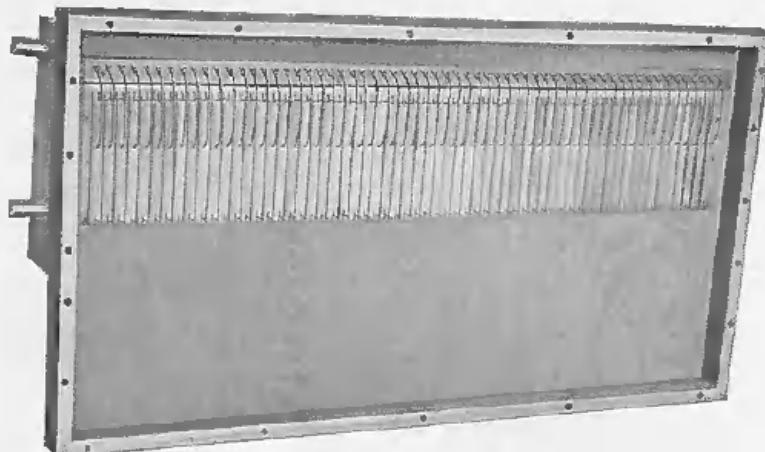

FIG. 2 - THE SOUNDING BOARD
**The Sounding Board** (shown in Fig. 2) corresponds to the top of a violin, and on it depends the resonance of the organ's tone. In the Estey it is made of quarter-sawed old growth spruce of the highest grade, free from knots and stains, straight grained and seasoned until it is drier even than the proverbial "tinder."